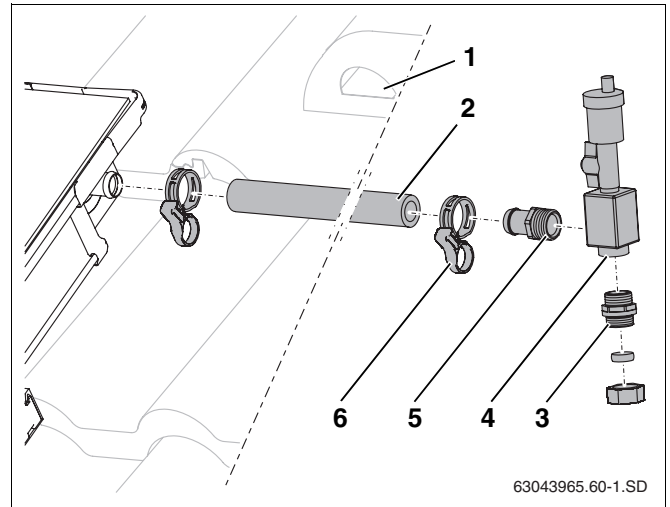

Fig. 56 Fitting the solar hose to the flow connection
- ▶ Push long solar hose (1000 mm, Fig. 56, **Item 2**) onto the flow connection on the collector array and fix in place using hose clip.
- ▶ Feed solar hose together with the sensor cable through the ventilation tile (Fig. 56, **Item 1**) and through the roof insulation.
- ▶ Firmly screw R $\frac{3}{4}$ hose nozzle with O-ring (Fig. 56, **Item 5**) and double threaded fitting with O-ring (Fig. 56, **Item 3**) into the air pot (Fig. 56, **Item 4**).
- ▶ Push hose nozzle onto the solar hose as far as it will go and fix in place using hose clip (Fig. 56, **Item 6**).
- ▶ Connect header pipe to the compression fitting (Fig. 56, **Item 3**).